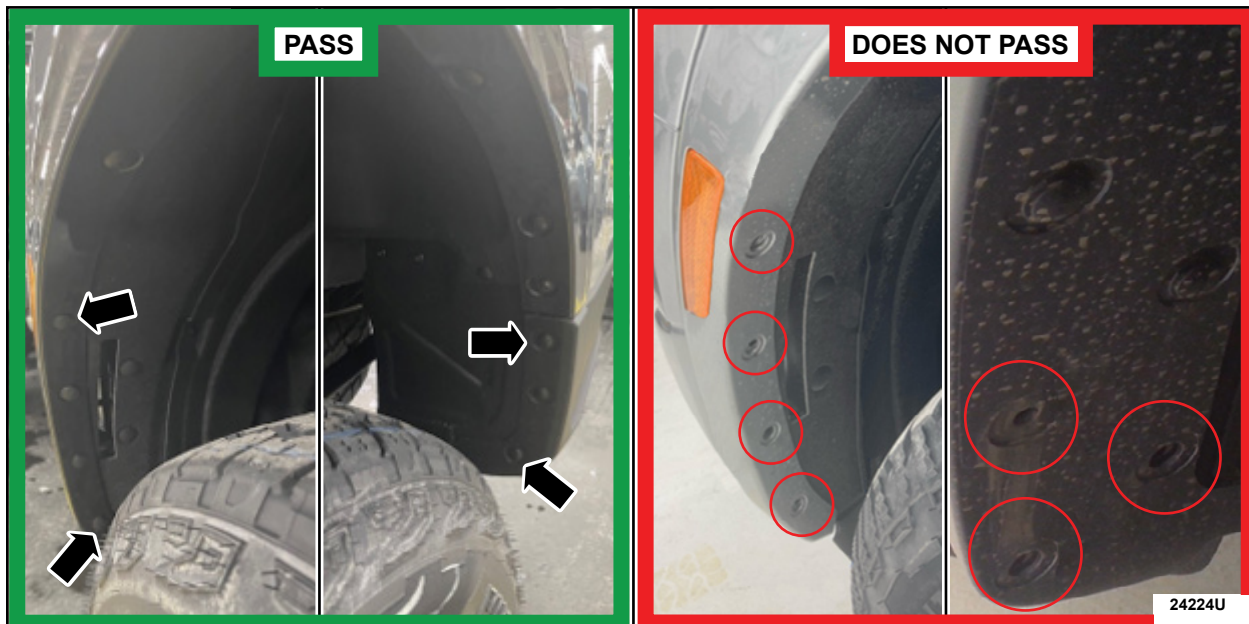

FIGURE 8
14. Verify the front wheel lip moulding is secure with no missing push pin retainers. See Figure 8.